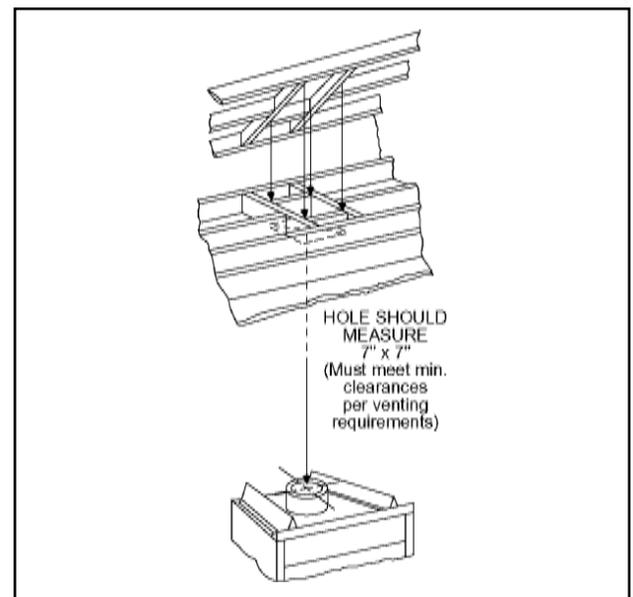

Figure 8 - Exiting Through the Roof
- f. **Marking the Exit Point in the Roof.** Locate the point where the venting will exit the roof by plumbing down to the center of the vent system. Drive a nail up through the roof to mark the center. See Figure 8.